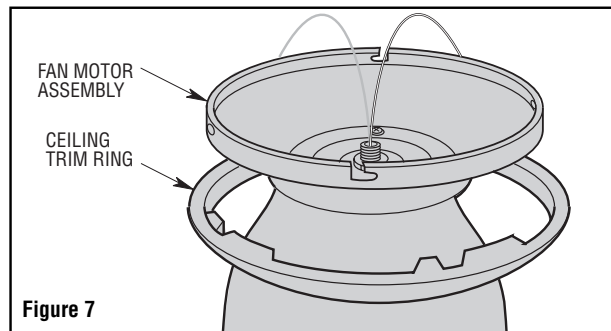

Figure 7
4. Slide the ceiling trim ring over the fan motor assembly and let it rest on the motor assembly (Figure 7).